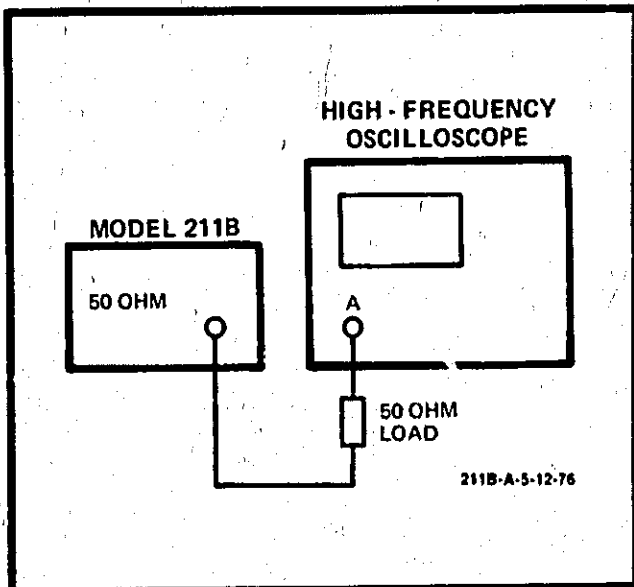

Figure 5-2. Symmetry Control Check Test Setup
a. Connect equipment as shown in figure 5-2 and set 211B controls as follows: